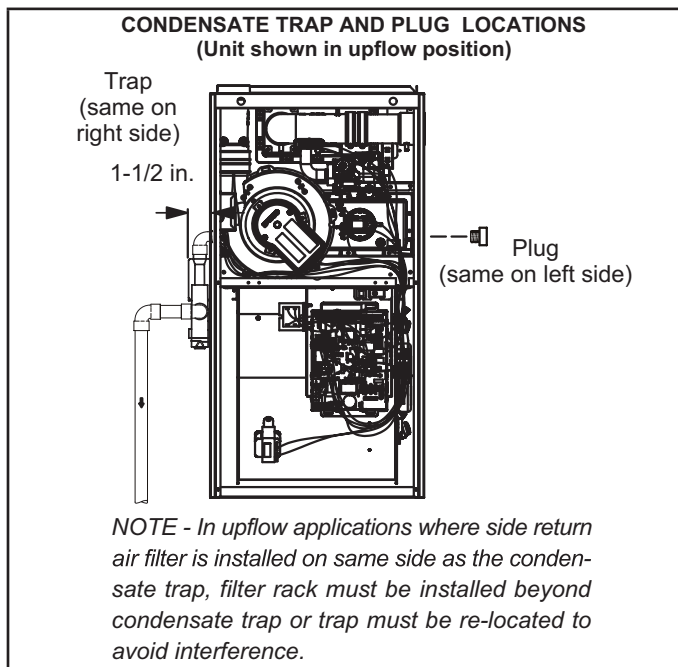
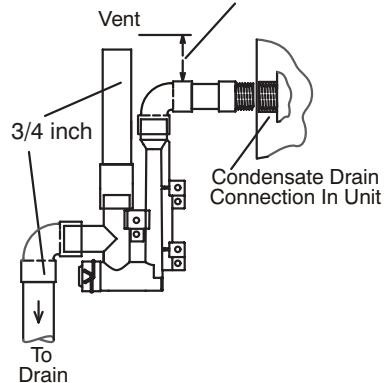

FIGURE 35
FIGURE 43
This unit is designed for either right- or left-side exit of condensate piping in upflow applications. In horizontal applications, the condensate trap must extend below the unit. An 8" service clearance is required for the condensate trap. Refer to FIGURE 35 for condensate trap locations. FIGURE 43 shows trap assembly using 1/2" PVC or 3/4" PVC.
- 3 - Install the cap over the clean out opening at the base of the trap. Secure with clamp. See FIGURE 43.
- 4 - Install drain trap using appropriate PVC fittings, glue all joints. Glue the provided drain trap as shown in FIGURE 43. Route the condensate line to an open drain. Condensate line must maintain a 1/4" downward slope from the furnace to the drain.